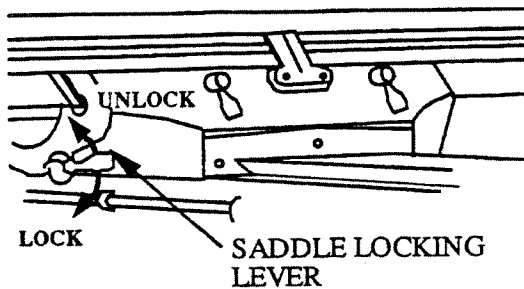

Figure 8-21. Saddle Clamping
8.26 SADDLE CLAMPING (Figure 8-21)